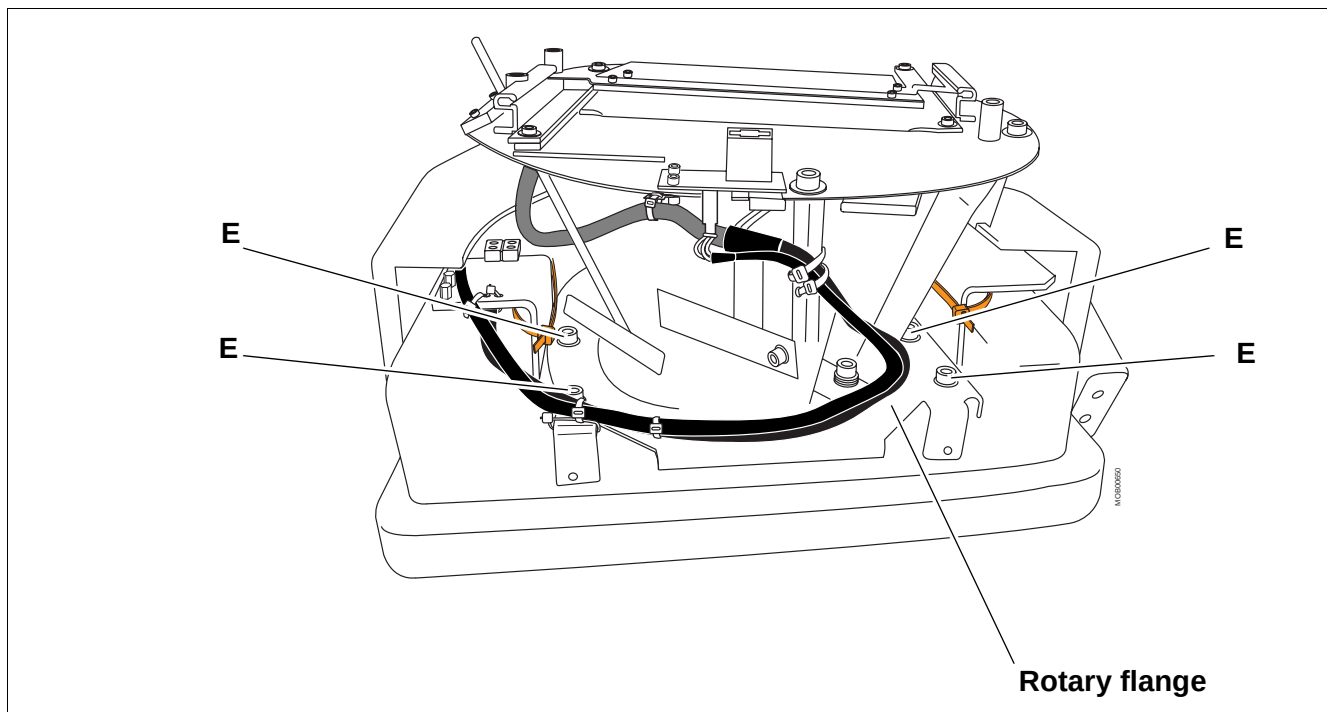

Fig. 15
- Tighten the screws marked "E" (Fig. 15).